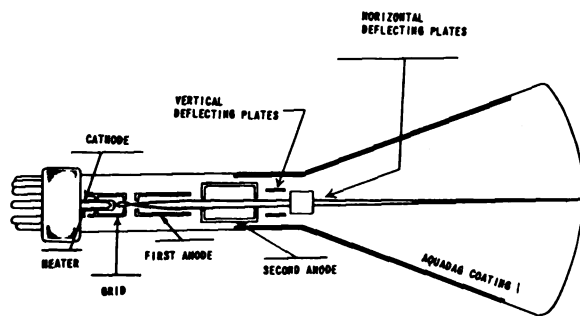

Figure 10. Typical electrostatic cathode-ray tube.
a. Typical Cathode-ray Tube. The cathode-ray tube is a special type of vacuum tube in which electrons emitted from a cathode are caused to move at a very high velocity, are formed into a narrow beam, and are then allowed to strike a chemically prepared screen which fluoresces or glows at the point where the electron beam strikes. The electron beam passes between two pairs of deflecting plates which may cause it to be deflected and to trace patterns on the screen which depend on the properties of the deflecting voltage applied to the deflecting plates. A diagram of a cathode-ray tube of the type used in Oscilloscope I-245-B is shown in figure 10. A